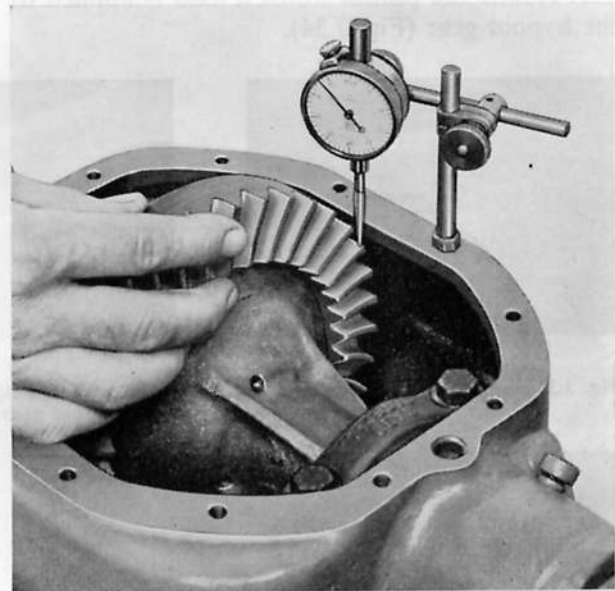

Fig. J.33. Checking the backlash between the hypoid gear and pinion teeth
2. Place the differential and hypoid gear assembly in the axle housing, and mount a dial gauge on the housing to check the backlash between the hypoid gear and pinion teeth (Fig. J.33).
4. Preliminary checks on the backlash can be made without installing the bearing caps, but the final check must be made with the caps in position (Fig. J.33).